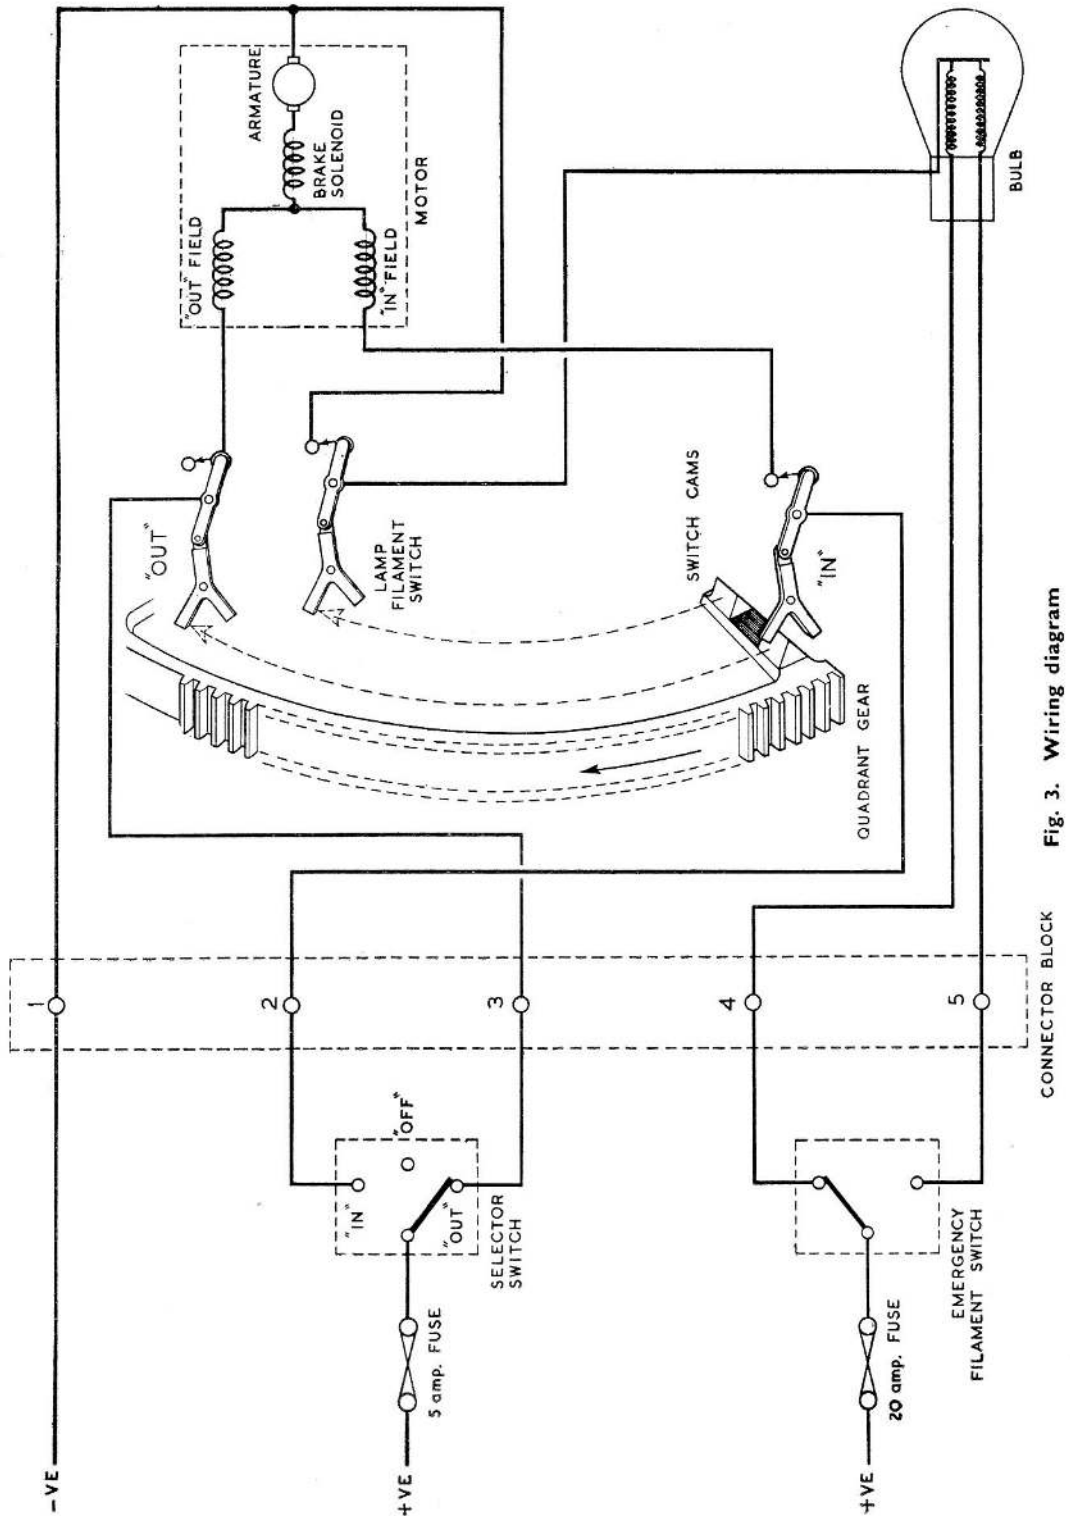

Fig. 3. Wiring diagram
23. With a 24-volt d.c. supply connected, and the selector switch set to OUT (fig. 3), the "out" field coils of the motor and brake solenoid coil will be energized, thus allowing the armature to rotate and move the lamp towards the extended position.